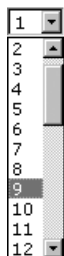

Figure 6-12 — Input selection drop box
1. Click the Input drop box. A drop-down scroll box appears (figure 6-12).